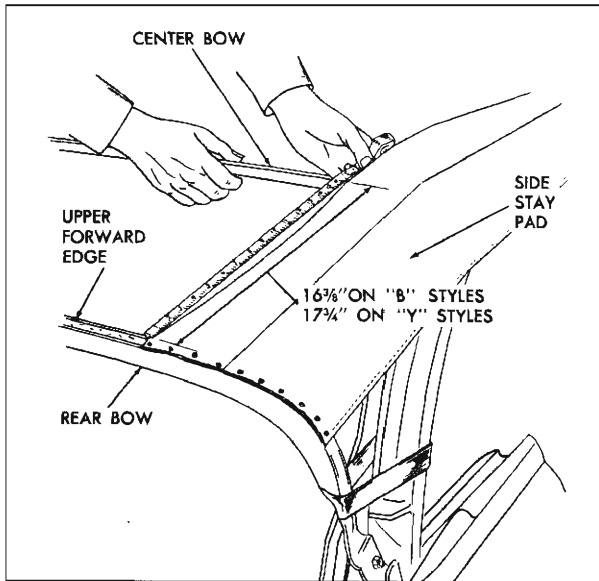

Fig. 21-40 Position of Rear Bow
4. Trim selvage end of side stay pads just forward of rear rolled edge of rear roof bow (Fig. 21-40).